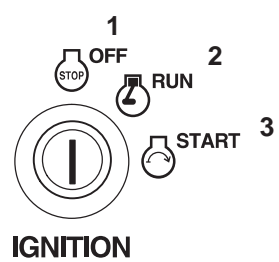

Figure 14
6. Turn the ignition key to Start to energize the starter. When the engine starts, release the key (Fig. 14).
3. Let the engine idle for 60 seconds (Fig. 14).
4. Turn the ignition key to off (Fig. 14).